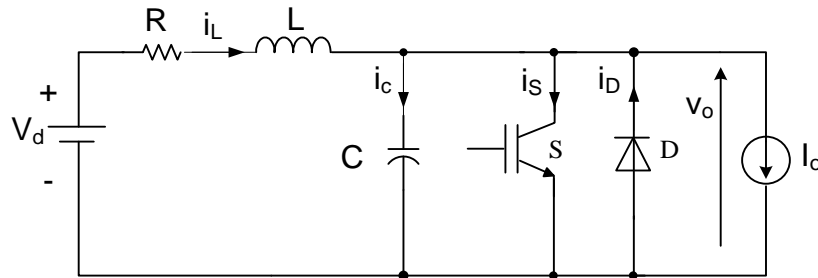

Figure 3.1 Equivalent circuit of resonant dc link inverter
3. a. A resonant dc link inverter can be represented by an equivalent circuit shown in figure 3.1. With reference to figure 3.1 explain the basic operational principles of the resonant dc link inverter. (4)
- b. For the case in a) sketch voltage and current waveforms of v_o , i_L , i_C , i_S and i_D with respect to a gate drive signal for switch S. (4)